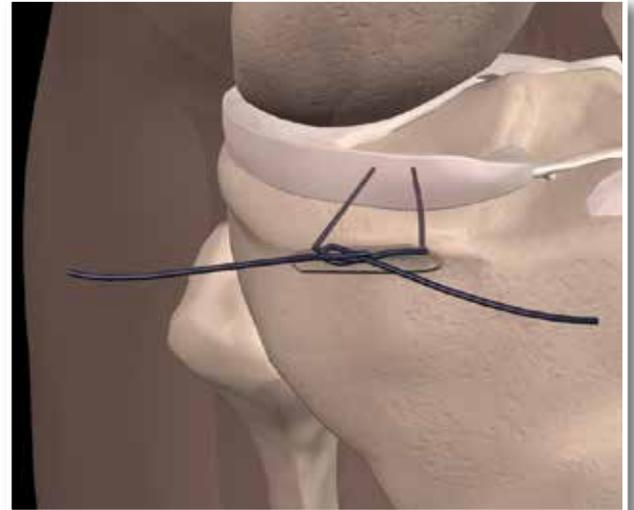

Figure 14
8. Relax the knee to a neutral position. Tie the suture subcutaneously, directly over the capsule (Figure 14). For multiple sutures, start anteriorly on the tear and work toward the posterior horn, beginning at step 2.